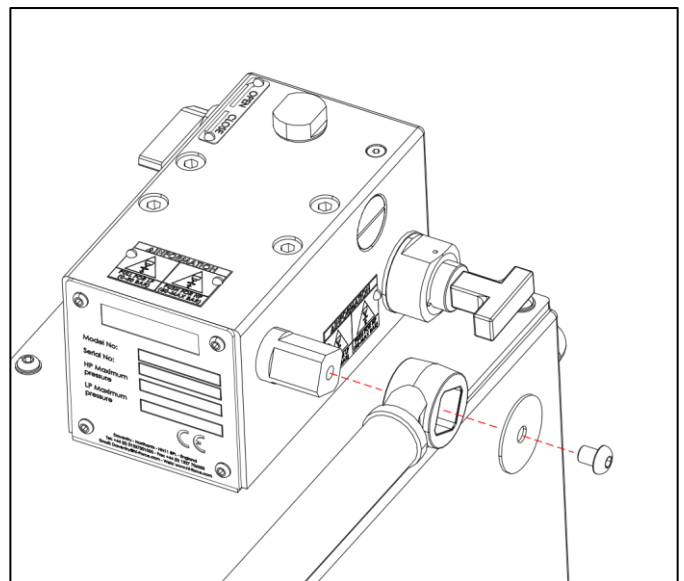

Figure 5.1 - Attaching the Operating Lever
- Fit the operating lever using the bolt and washer provided. (See figure 5.1)